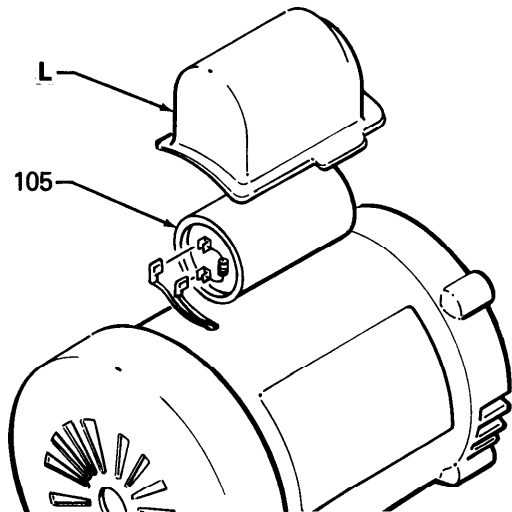

Fig 10
If the motor won't start, unplug the power supply cord, check and/or replace the motor starting capacitor (105) located under the capacitor cover (L). Remove the screws holding the cover to the motor. Lift the cover enough to turn it over, and use the tip of a screwdriver, if necessary, to gently pry the capacitor out of the cover. The wires and resistor are connected with quick disconnect terminals. Unsnap the wires and resistor and discard the old capacitor and resistor. Snap the wires and resistor onto the new capacitor, making sure the wires are located properly. See Fig 10. Install the capacitor in the cover and screw the assembly onto the motor.